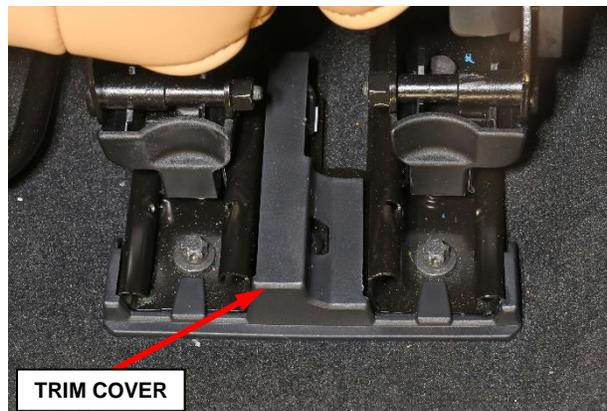

Figure 49 – Seat Track Trim Cover
11. Second row seats, remove the seat track front trim cover (Figure 49).